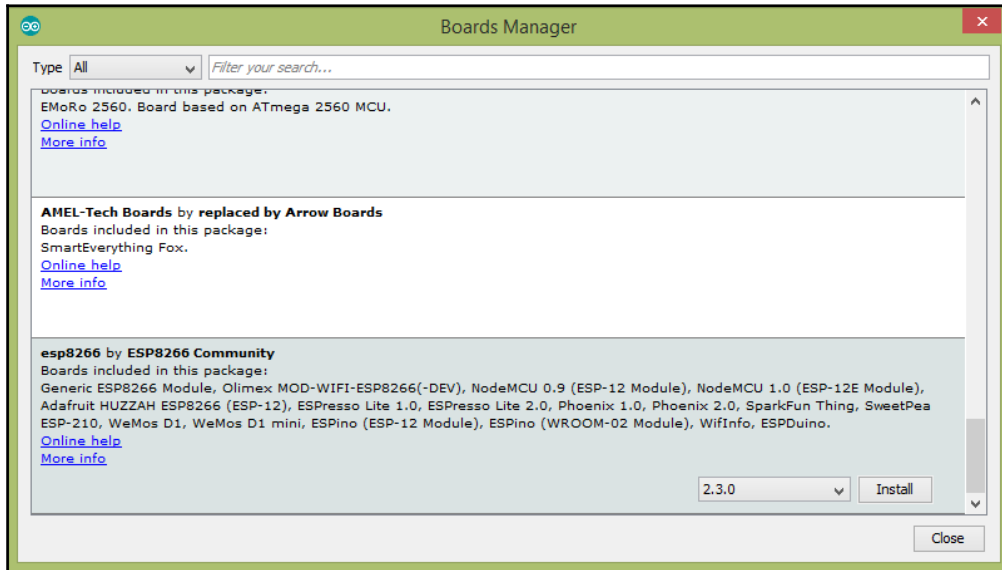

Figure 1.10: The Arduino IDE Boards Manager
3. Open the **Boards Manager** by selecting **Tools | Board | Boards Manager**. You should see a new entry in the list titled **esp8266 by ESP8266 Community** (Figure 1.10):